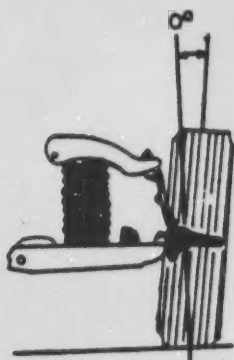

Figure 1
1. Figure 1 shows _____ a. negative camber.